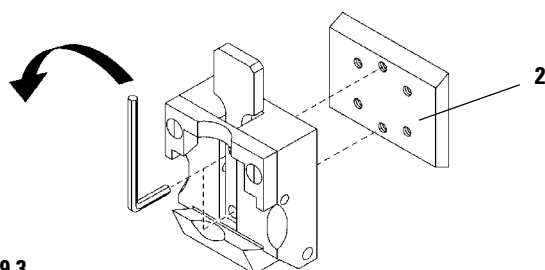

Fig. 29.3
- To remove the dovetail guide (2) from the specimen clamp unscrew the two corresponding screws on the specimen clamp (Fig. 29.3).